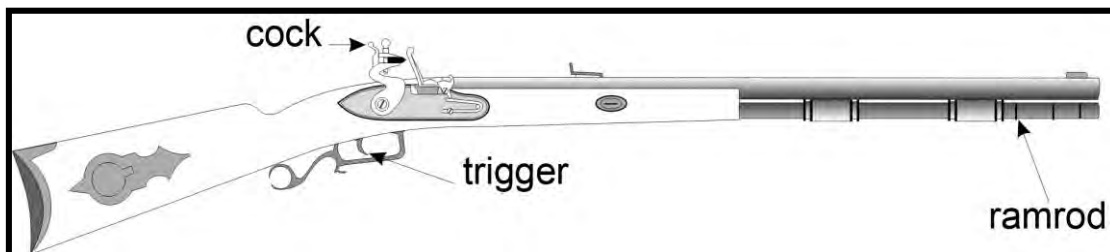

Figure 5. Flintlock Rifle
2. For centuries, flintlocks were the standard firearms (Figure 5). During this time, many improvements were introduced. One such improvement of the flintlock over the matchlock and wheel lock was the development of a more reliable ignition system.